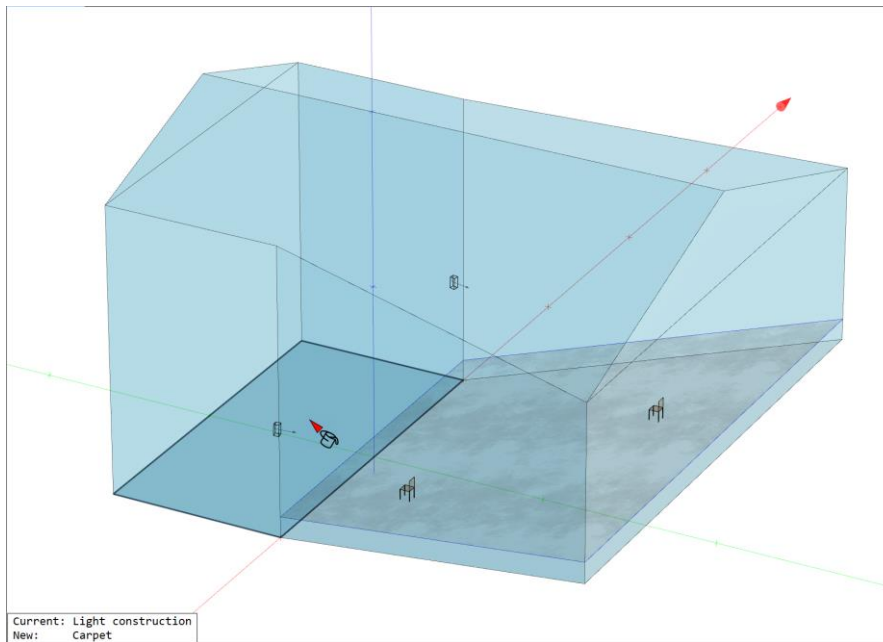

Figure 7.36 Replacing the material assigned to a face. The status text in the lower left shows the current material as well as the new one.
1. If there are no faces currently selected when you choose an item from the list, the drop-down will be removed and the mouse cursor will change to a paint bucket. In this mouse mode, materials can be assigned to faces by selecting the faces in the 3D view (Figure 7.36). Note that when hovering over a face the status text will show the previous material and the new material. You can also replace a material that is currently used in the project by the selected material. To that end, left-click on the corresponding tile in the MATERIALS IN USE window (Figure 7.37). To learn more about the MATERIALS IN USE window please refer to section 5.4 about materials used in the project.